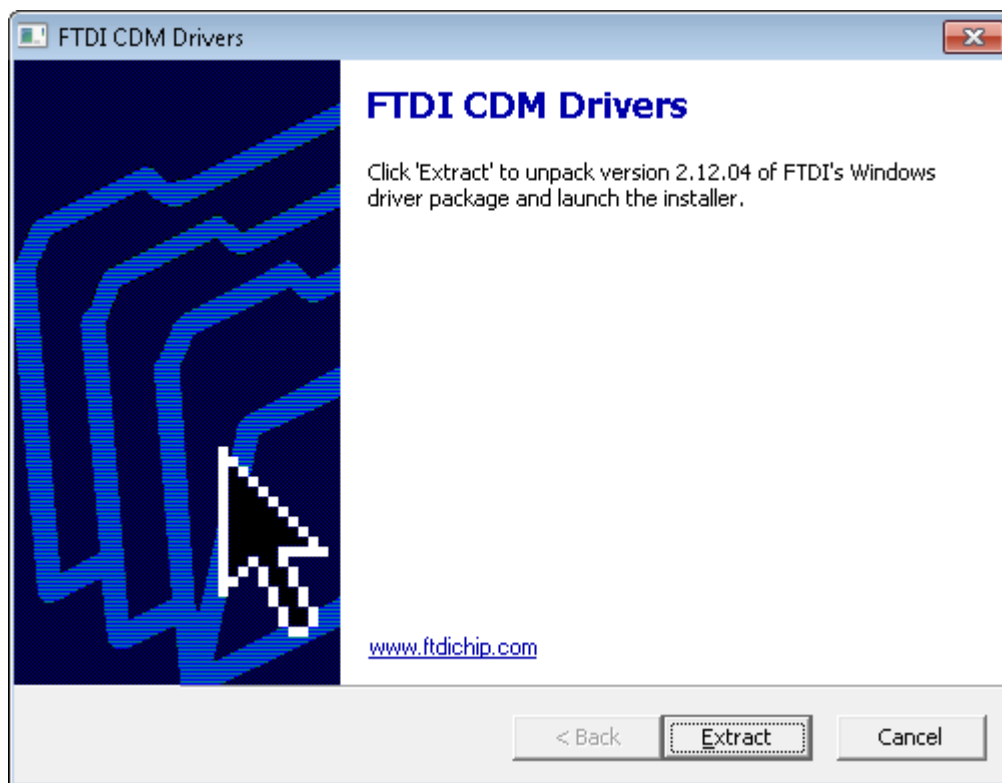

Figure 18. FTDI Installation Initialization
14. After Setup_DRV8803/04/05/06_EVM Installation, FTDI Installation begins. A screen as shown in Figure 18 appears, click **Extract** to proceed.